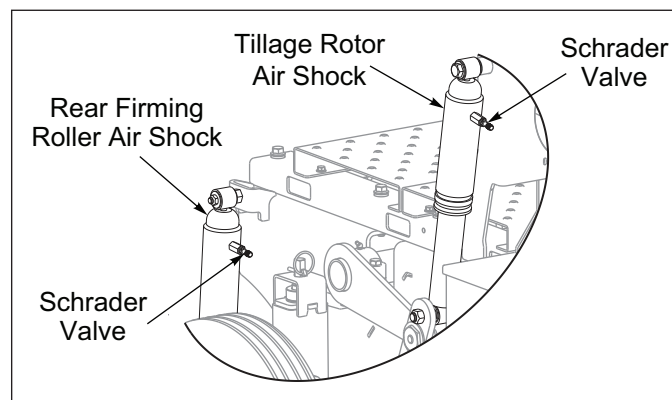

Figure 3-7: Air Shocks Right Side
- Air pressure can be increased or decreased through the Schrader Valve on each Air Shock. **See Figures 3-7 and 3-8.**